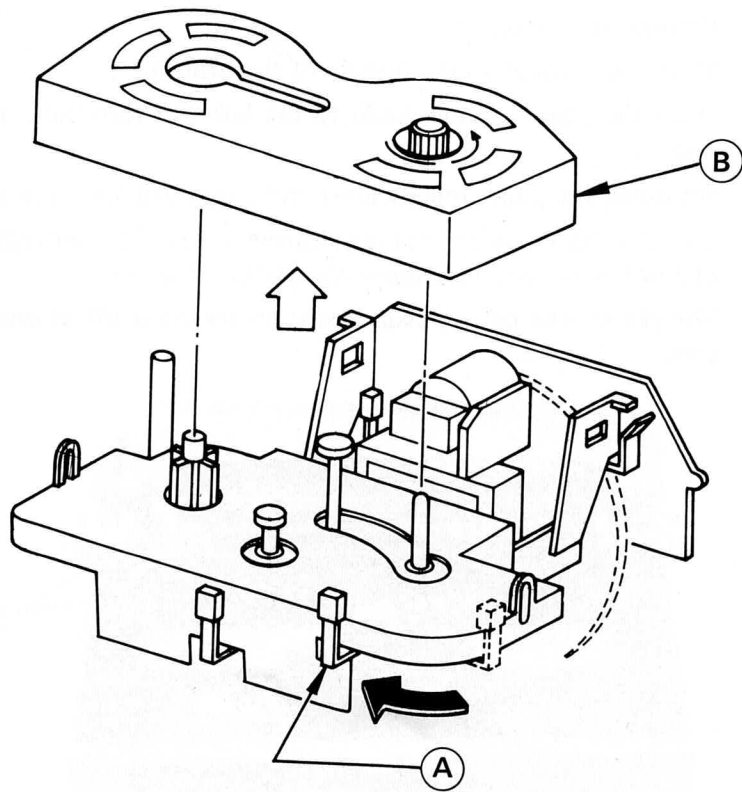

Fig. 5.2
- (1) Removing the ribbon cartridge (Refer to Fig. 5.2 on page 12)
Step 1 Move the ribbon release level (A) to the front of the ribbon mechanism (released position).
Step 2. Remove the ribbon cartridge (B) .